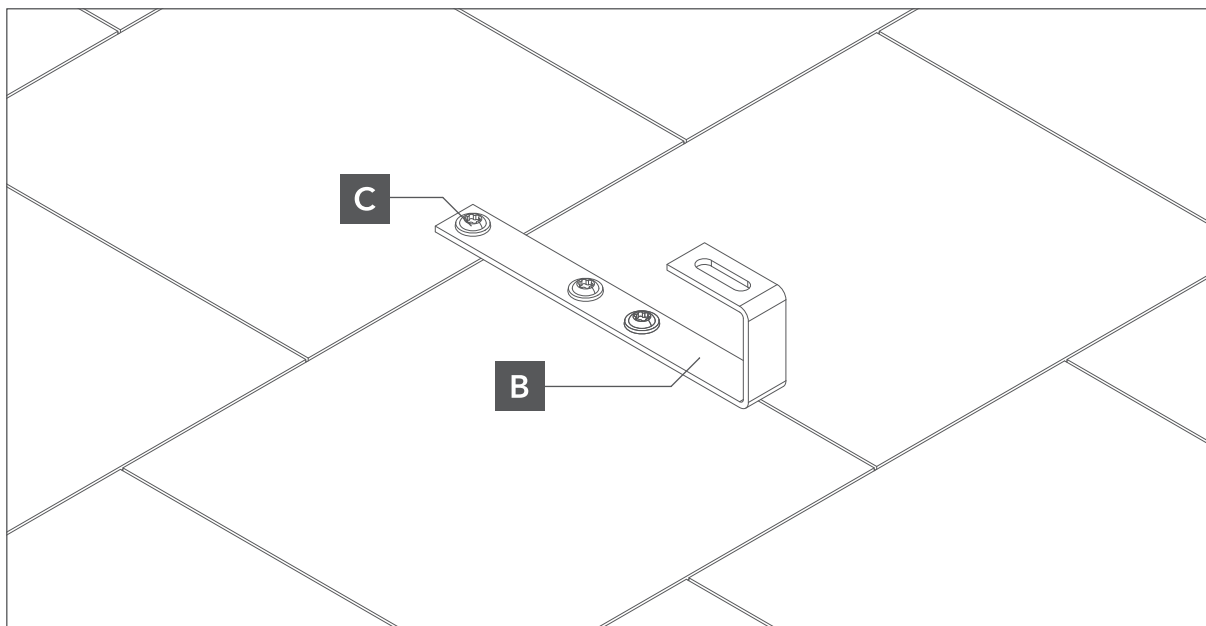

Fig. 4. attachment of the roof holder to the batten.
- 3** The roof brackets must be mounted on the specified roof locations. The bracket is fastened to the wood with at least three TCS screws (Fig. 4).